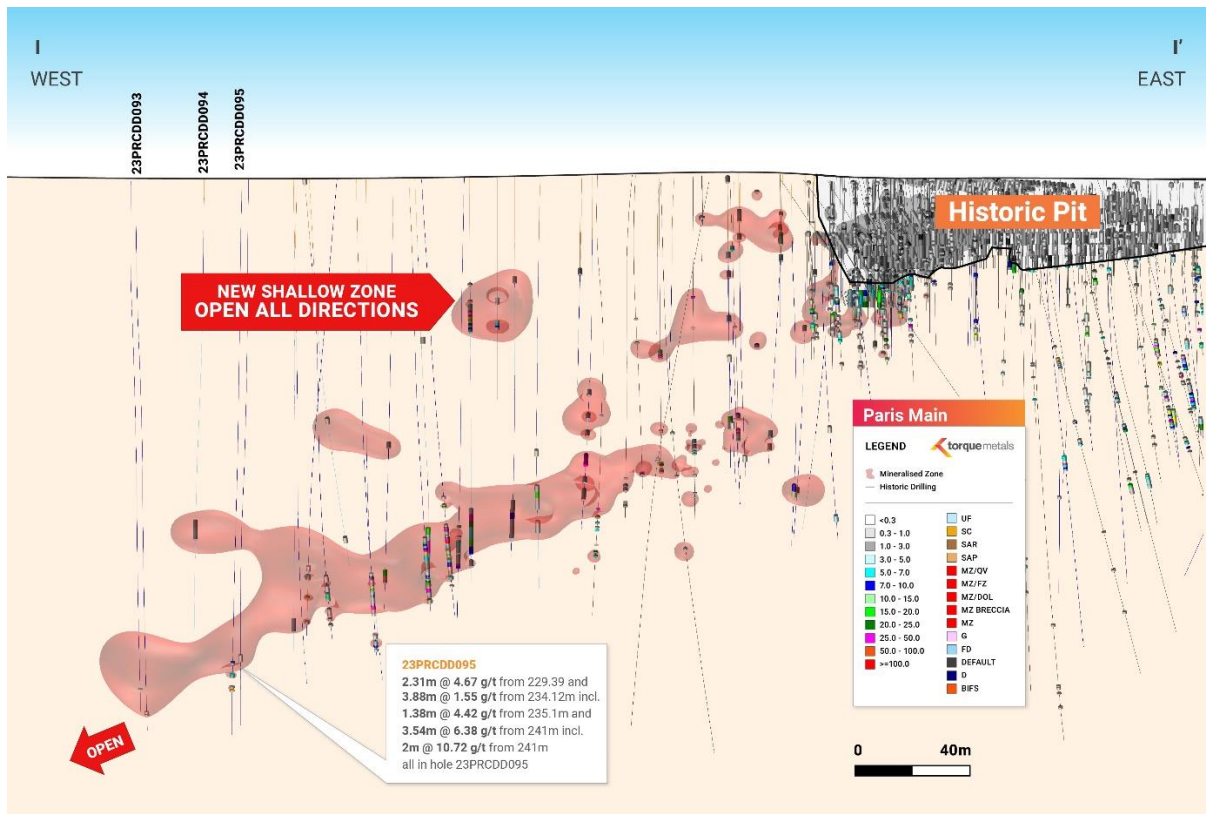

Figure 6 Paris prospect, Paris western lode, W-E section of the mineralised structure
- At HHH prospect, mineralisation extended 150m towards the east (Figures 6, 7), with intersections including:
Diamond tail-drilling (322m, 3-hole) revealed an extended mineralised formation to the west of the Paris pit, reaching 70 meters from the most western mineralised drill hole (Figure 6). Most notable outcome from this drilling effort is as follows: